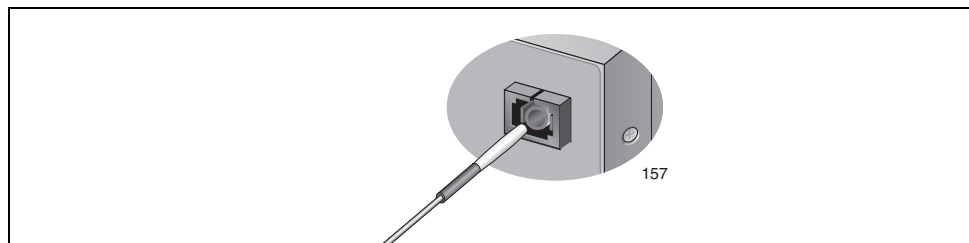

Figure 108. Cleaning a Recessed Ferrule
1. Insert the swab into the adapter as shown in Figure 108 and rub the ferrule tip with the swab.